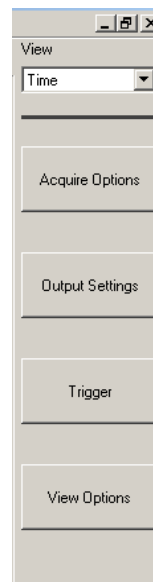
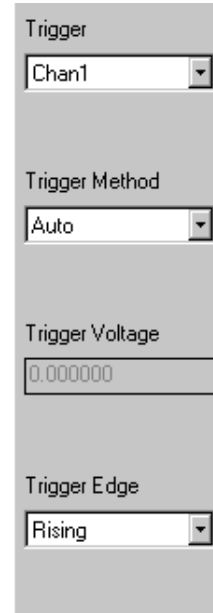

Figure 4. OE-2 Main Menu
Figure 7. Trigger Menu
- 2) From the OE-2 Main Menu, click on Acquire Options. (Figure 4)
The default view in the OE-2 tool is the optical power vs. time view. The Trigger Menu allows you to set up a trigger source and conditions on the SIA to view the optical waveform. The Trigger Menu is accessed from the OE-2 Main Menu (Figure 4). The desired Trigger Channel can be selected in the “Trigger”. (Figure 7)